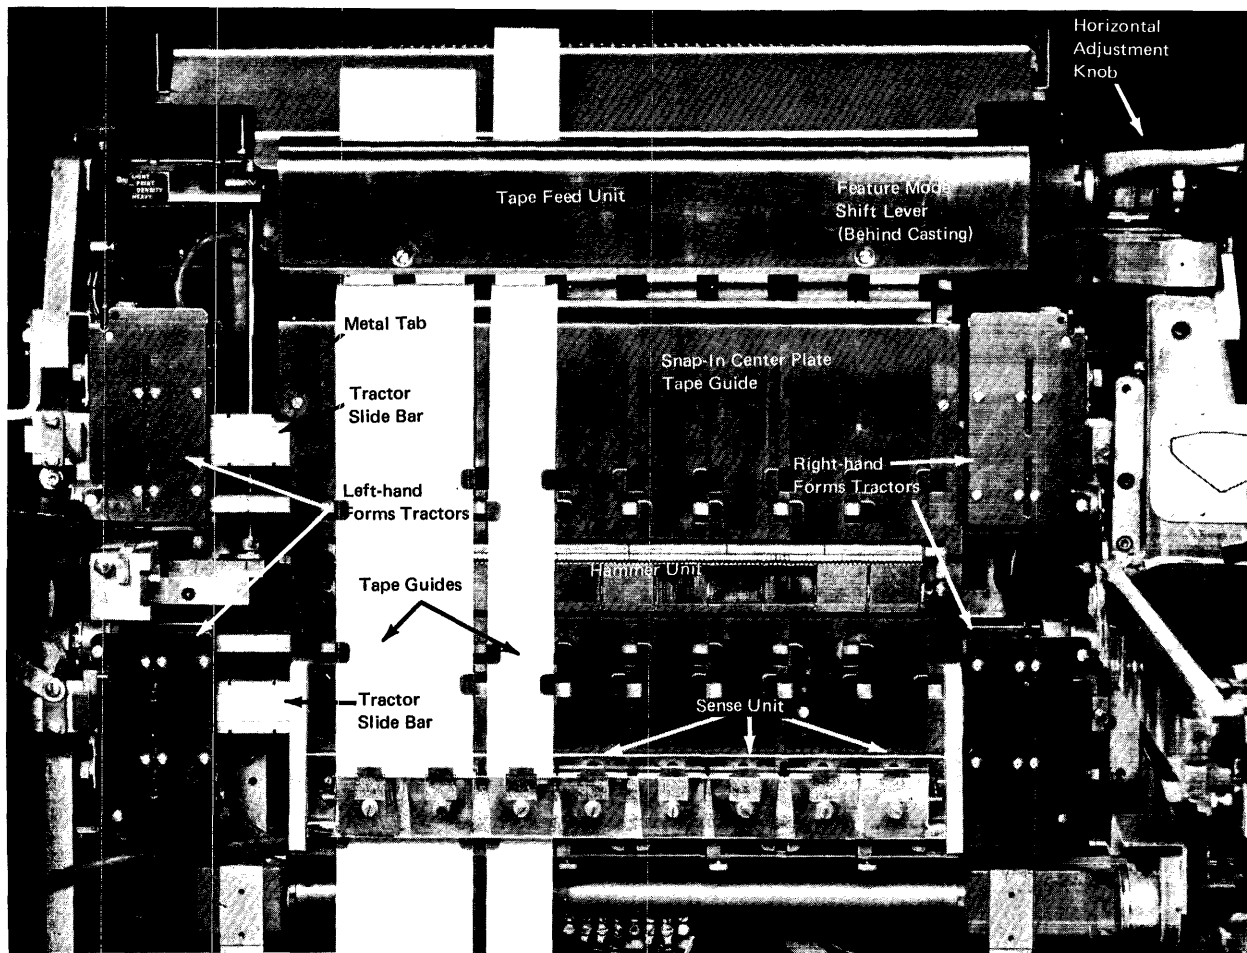

Figure 45. 1403 Model N1 with Selective Tape Listing Feature
- a. Hang the snap-in tape-guide plate on the upper tractor slide-bar (Figure 45) by the nylon spools attached to the back of the assembly.
- b. Slide the tapes partially (about one in. or 25 mm) into the tape-feed unit (Figure 45) so that they are securely gripped.